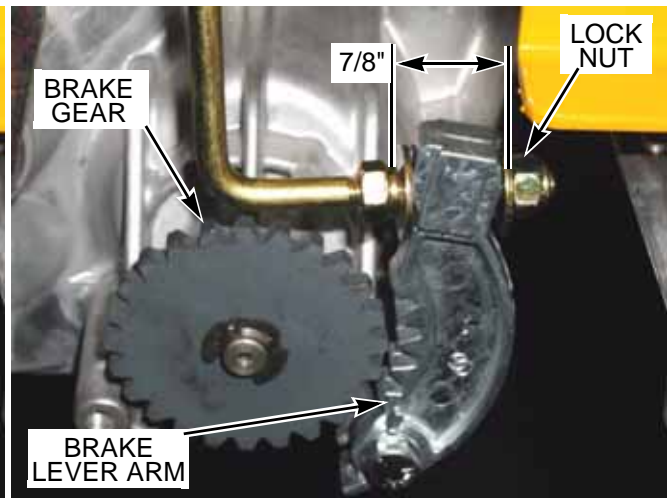

FIG. 22
6. If you find that the clearance is not to this specification, then adjust the position of the brake lever arm by moving the lock nuts on the brake rod accordingly. When adjusting the nuts, the spacing between the inside of the nuts needs to be maintained at 7/8" (2.22CM) which has been set at the factory. The best way to keep this spacing is to turn both nuts in the same direction the same number of turns (FIG. 22).